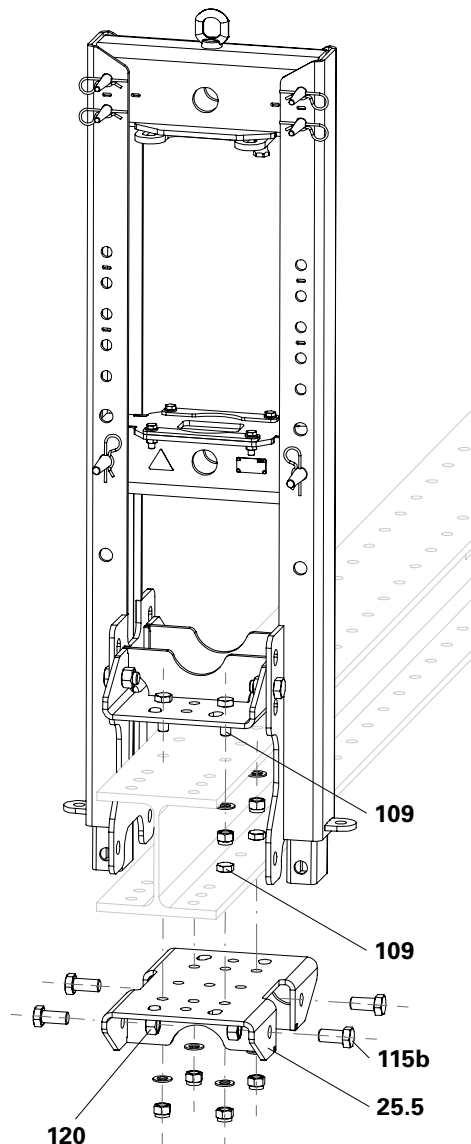

Fig. G2.03
2. Remove bolts M20x60 (109).
5. Fix the bottom Girder Connection (25.5) in its original position with bolts M24x50 (115b) and nuts M24 (120).
6. Place the Lift Frame in the ring pallet and secure against sliding. (Fig. G2.03)